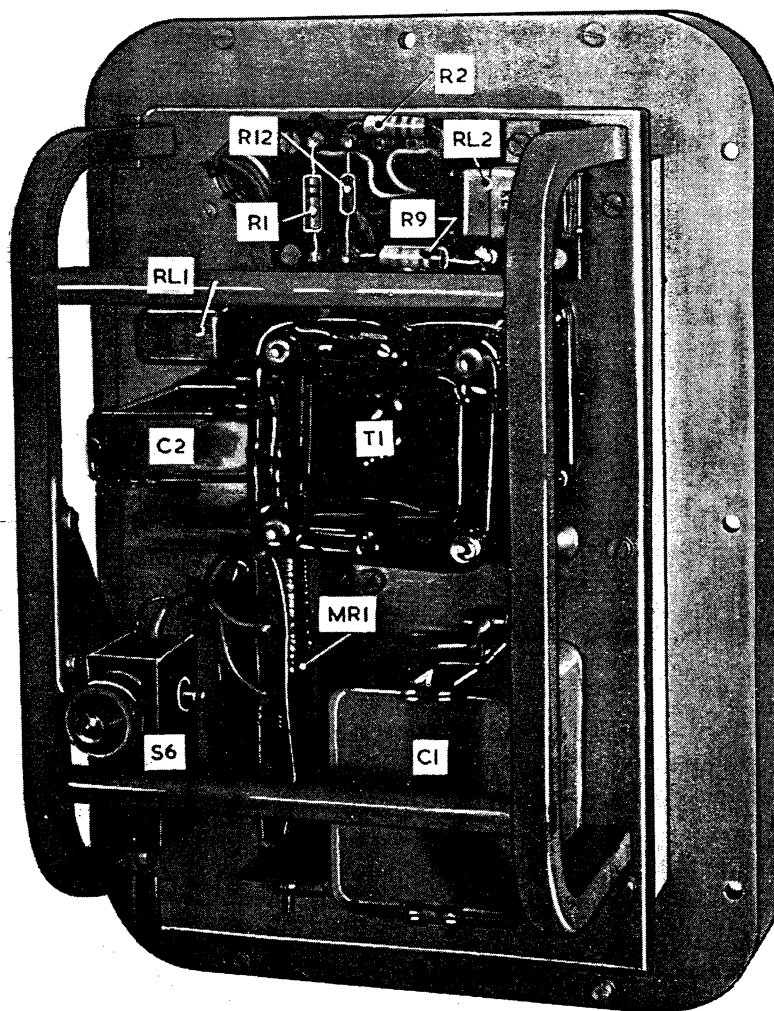
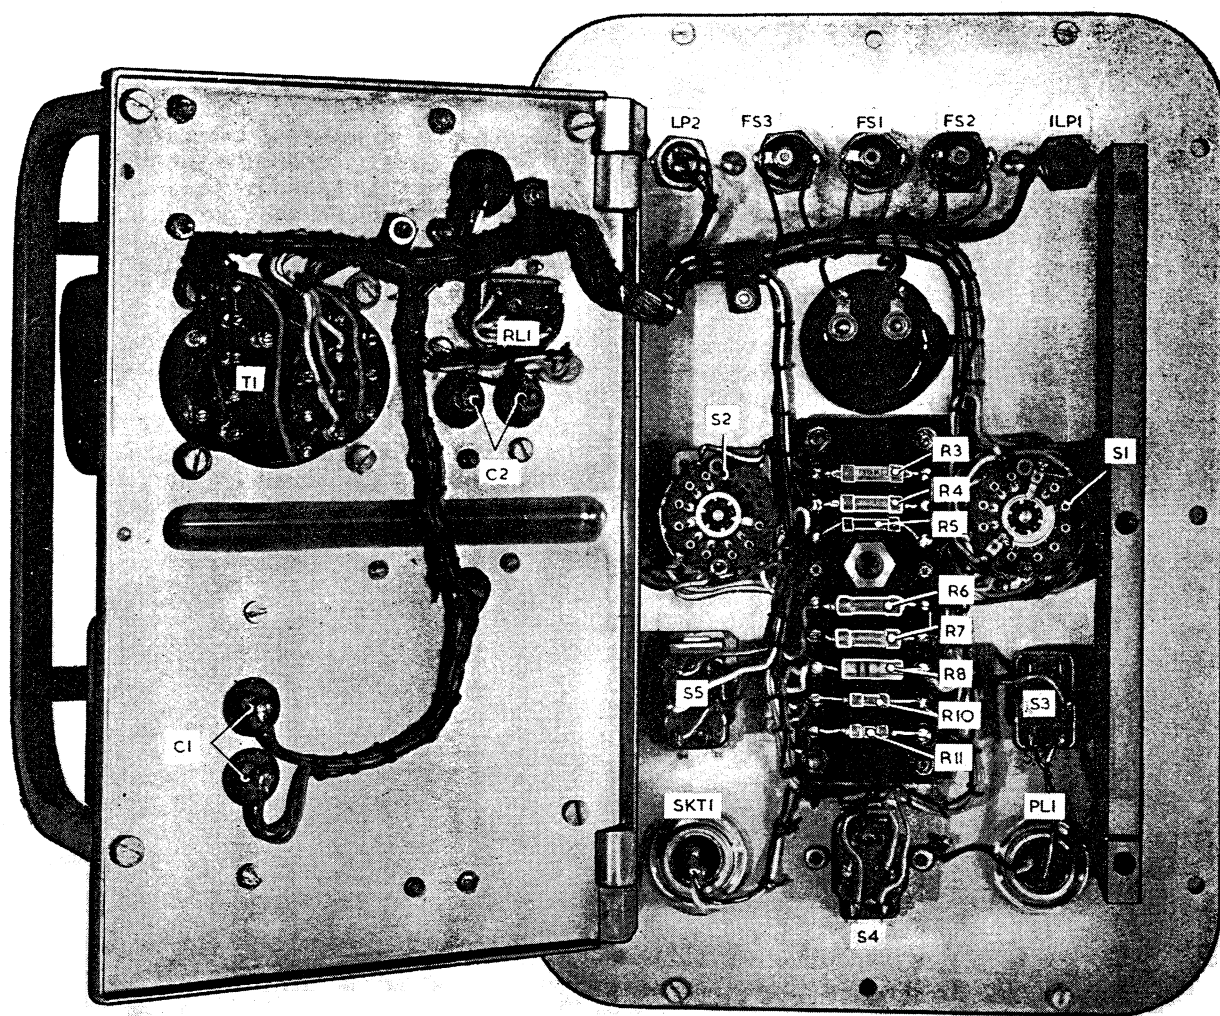

Fig. 2. Reforming unit, rear view with case removed
Fig. 3. Reforming unit, rear view with case and chassis removed
5. Fig. 2 shows the panel and chassis assembly removed from the case, and it will be seen that heavy guard rails are fitted to the back of the chassis, and that a micro-switch (in the mains
7. The left-hand edge of the chassis, as viewed in fig. 2, is pivotted to two pillars on the front panel, the right-hand edge is secured by three screws to an aluminium strip on the panel and, for additional rigidity, the centre of the chassis is secured to a pillar on the panel by one screw. When these four screws are removed, the complete chassis may be swung back to give access to the components and wiring located between the chassis and panel, as shown in fig. 3. The meter and the various switches are easily identified in the illustration. The two resistors R10 and R11 at the bottom of the centre tagboard are the meter multiplier and the meter shunt resistor respectively. The remainder of the resistors are those selected for use in the capacitor reforming or discharge circuits by means of the WORKING VOLTS and CAPACITANCE switches (S1 and S2, respectively).